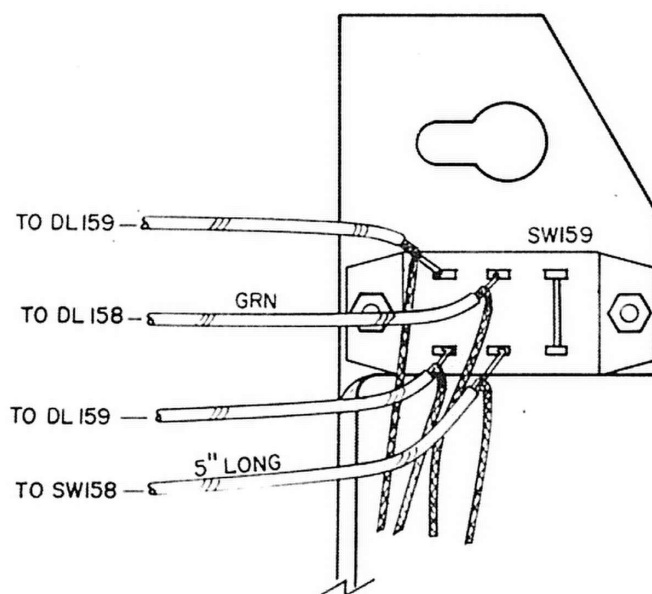

Fig. 2. Wiring for new Lead Time switch, SW159.
- () 30. Solder the center conductor of the other green delay line coaxial cable to the top center terminal of the new 75ns - 150ns Test Lead switch, SW159. See Fig. 2.
- () 31. Solder the center conductor of the added 5 inch coaxial cable (see step 28 above) to the bottom center terminal of the Test Lead switch, SW159. See Fig. 2.
- () 32. Solder the center conductor of one of the two remaining delay line coaxial leads to the bottom rear terminal of the new Test Lead switch, SW159. See Fig. 2.
- () 33. Solder the center conductor of the remaining delay line coaxial lead to top rear terminal of the Test Lead switch, SW159. See Fig. 2.